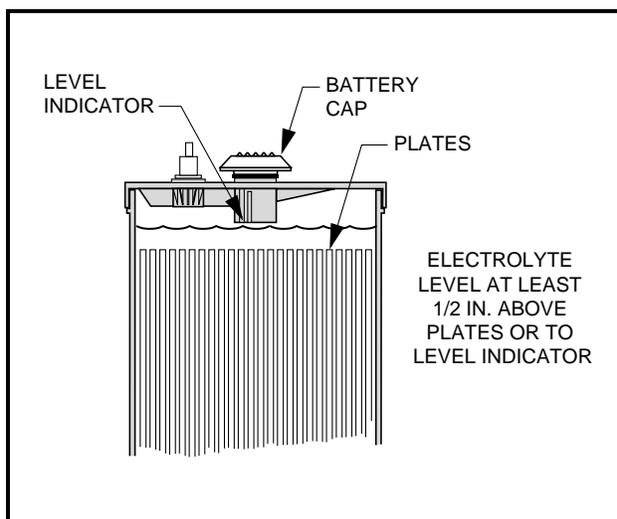

Figure 13-6 Battery Electrolyte Level
4. Batteries should be properly charged every day they are used. Check the batteries periodically to see that they are in a full state of charge. **See Battery Charging, Figure 13-6, Page 13-5.**
5. Keep hold-downs tight. **See Vibration Damage, Figure 13-6, Page 13-5.**
Add water only after charging unless the water is below the level of the plates. If the electrolyte level is below the level of the plates, add just enough water to cover the plates and then charge the batteries. After charging, fill with water to the level indicator. Filling a battery to the level indicator before charging will result in overfilling because the electrolyte level will rise during charging and some of the electrolyte may bubble out of the cap. This reduces its capacity and corrodes the metal parts around it. The electrolyte level should be checked weekly to be sure electrolyte is at its proper level (**Figure 13-6, Page 13-5**). Never allow the electrolyte level to fall below the tops of the plates because this will cause the exposed part of the plate to become permanently inactive. For best results, use a battery watering gun to add water to batteries. Check the electrolyte level more frequently in hot weather or when batteries are old.